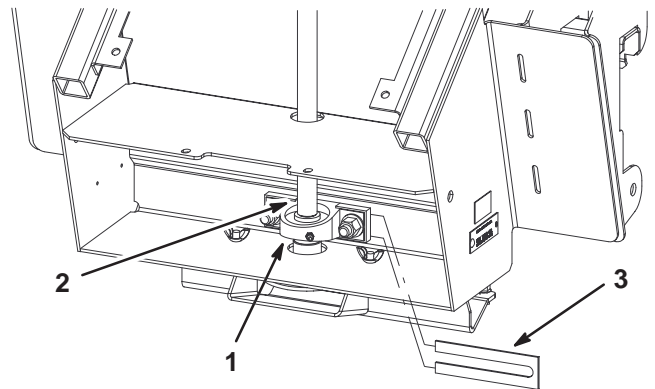

Figure 18
- A. Loosen the 2 nuts on the lower fan shaft pillow block (Fig. 18).
- B. Insert a spacer behind the pillow block (Fig. 18).